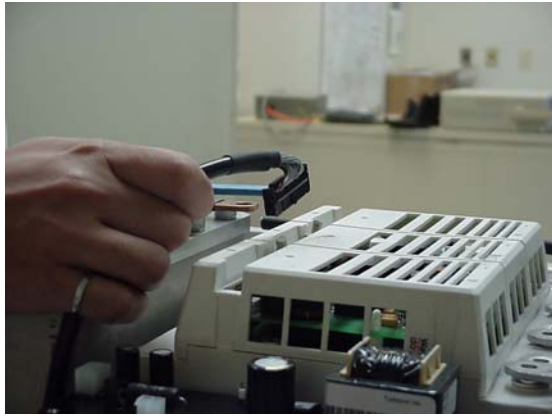

Figure 5-7 Disconnecting the Backplane from the IGBT Inverter
2. Detach the cable located on the top of the IGBT Inverter, as shown in Figure 5-7